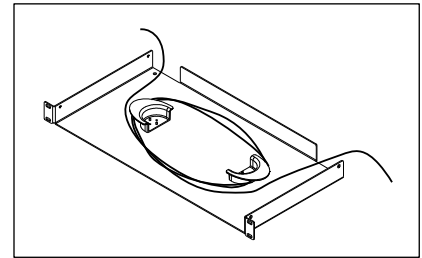

Figure 10 Fiber Routing
2. Coil the fiber slack inside the tray through one of the openings in the rear of the tray. Wind the fiber around the bend controls, observing the proper bend radius. Fiber exits through the second opening on the rear (Figure 10).